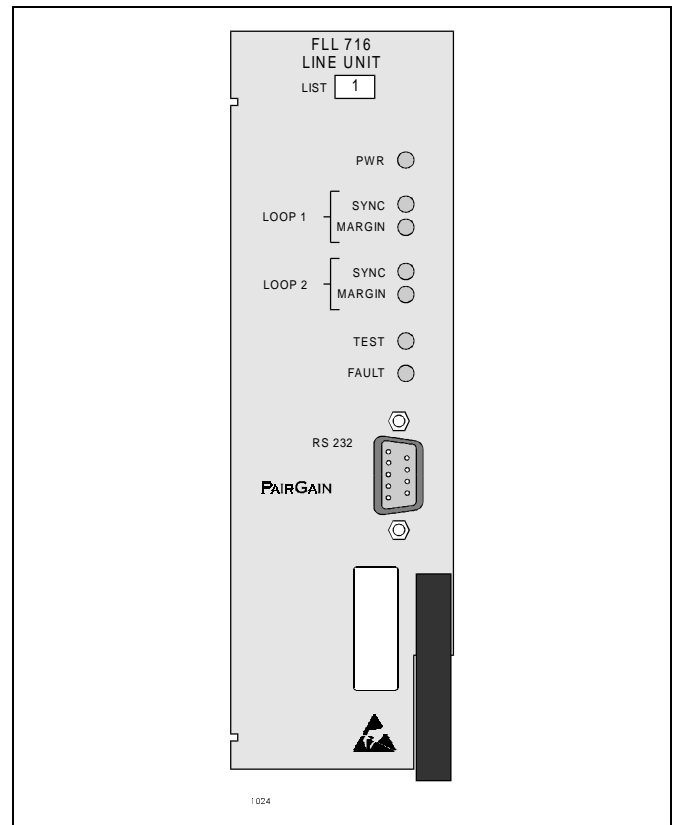

Figure 1. FLL-716 COT Line Unit, List 1, Front Panel.
6.03 The RS-232 Maintenance Port located on the front of the Line Unit (see Figure 1) enables the technician to configure and test the PG-Flex system using an ASCII terminal (see Section 8). A terminal is not required for normal installation and operation of PG-Flex, but may facilitate troubleshooting procedures on the HDSL line.
7.01 The front panel of the FLL-716 COT Line Unit contains the following indicators and connector (see Figure 1):